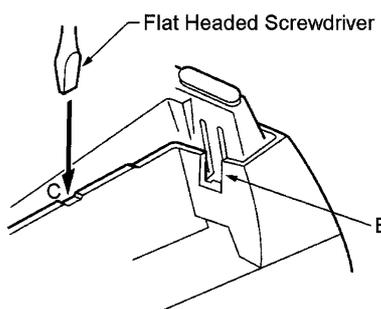

Figure 7-3 Releasing Right Tab
4. Lightly press right side of leg shown as B in *Figure 7-3 Releasing Right Tab*, insert flat head screwdriver at C and Press straight down until other tab unlocks.